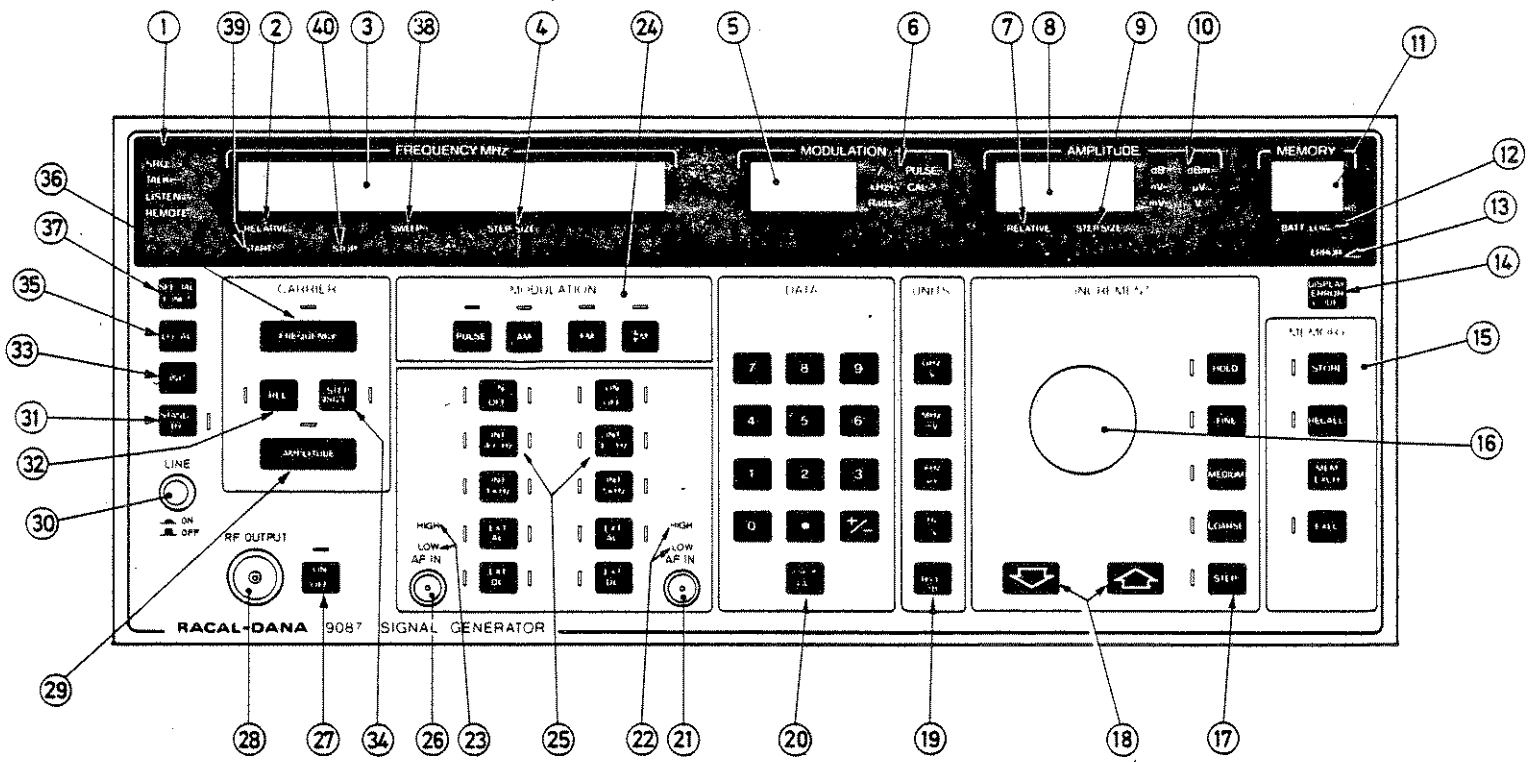
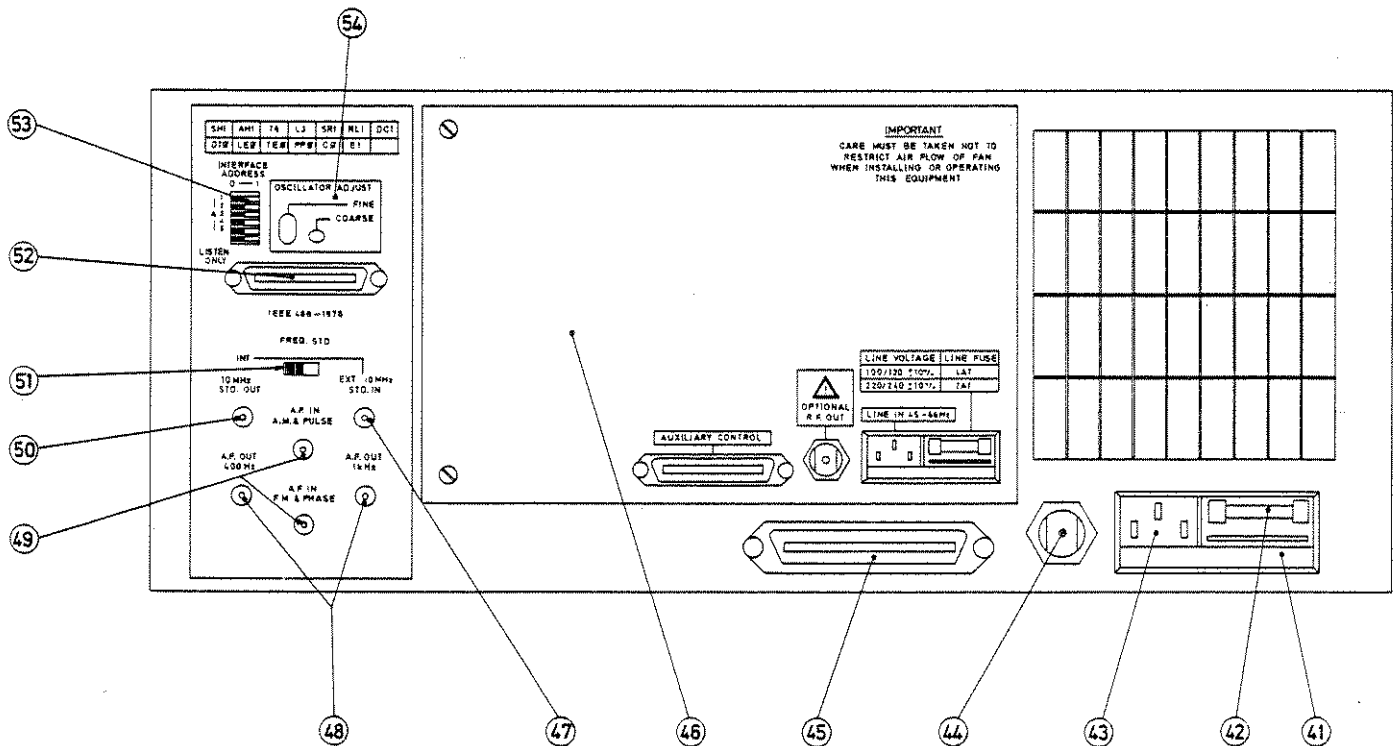

Fig. 4.1 Front Panel
Fig. 4.2 Rear Panel
4.2.1 Each group of controls or connectors described is numbered to correspond with the indicators on Fig. 4.1 (front panel) or Fig. 4.2 (rear panel). With the exception of the LINE switch the front panel keys are of the pressure sensitive membrane type. The numeric indicators are of the LED dot-matrix type.